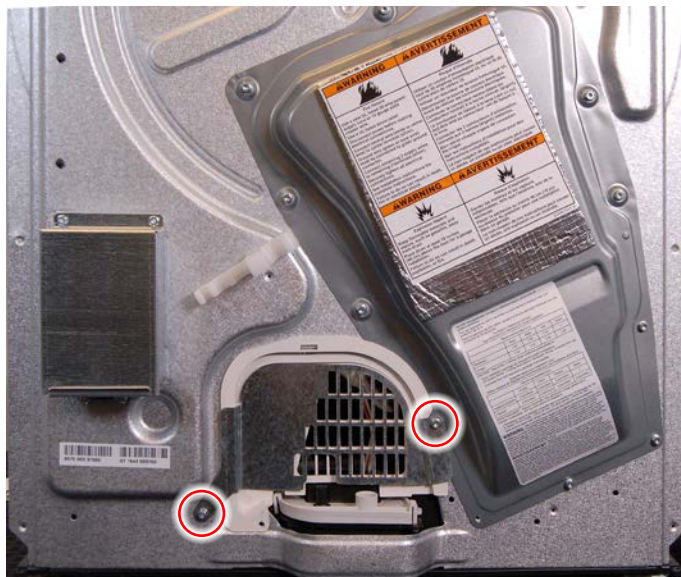

Figure 3
6. Use a T20 Torx driver to remove the two (2) screws securing the access cover bracket to the back panel (as illustrated in Figure 3). Remove cover bracket and set aside.